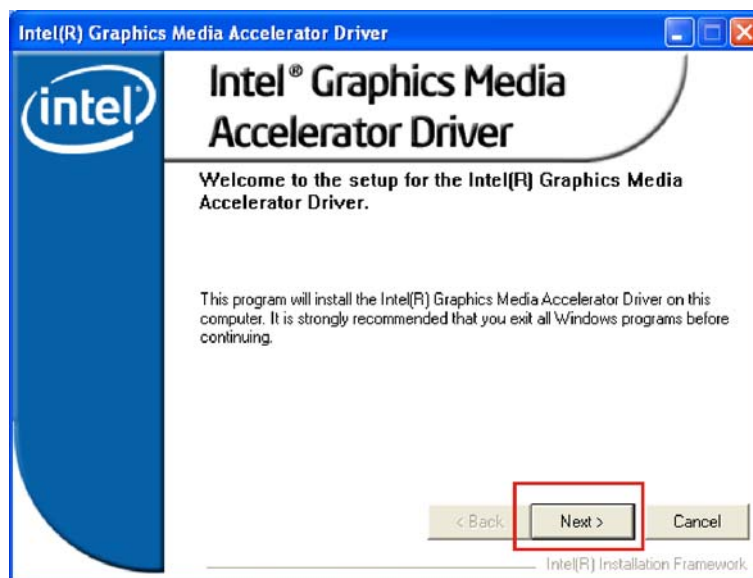

Figure 6-9: Graphics Media Accelerator Driver
Step 4: The **Graphics Media Accelerator Driver** welcome screen appears (Figure 6-9).
Step 5: Click **NEXT** to continue with the graphics driver installation (Figure 6-9).